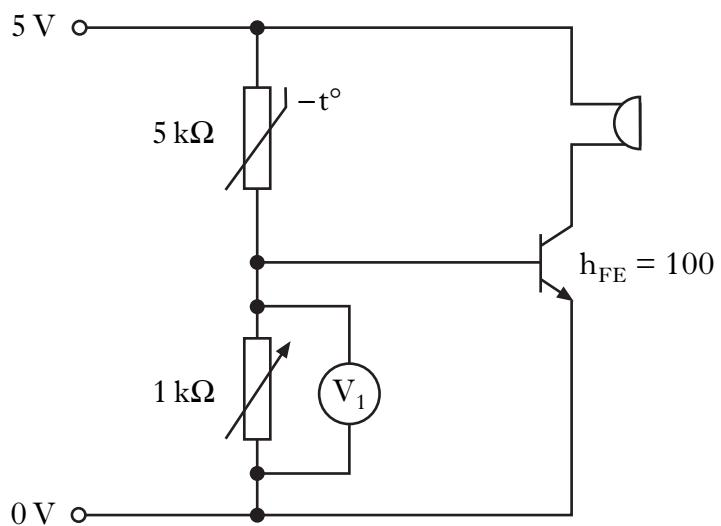

Figure Q7
7. An electronic circuit to turn on a buzzer when the temperature in a room becomes too hot is shown in Figure Q7.
For the conditions shown in Figure Q7:
- (d) State the name of the leg identified by the arrowhead on the transistor symbol in Figure Q7.